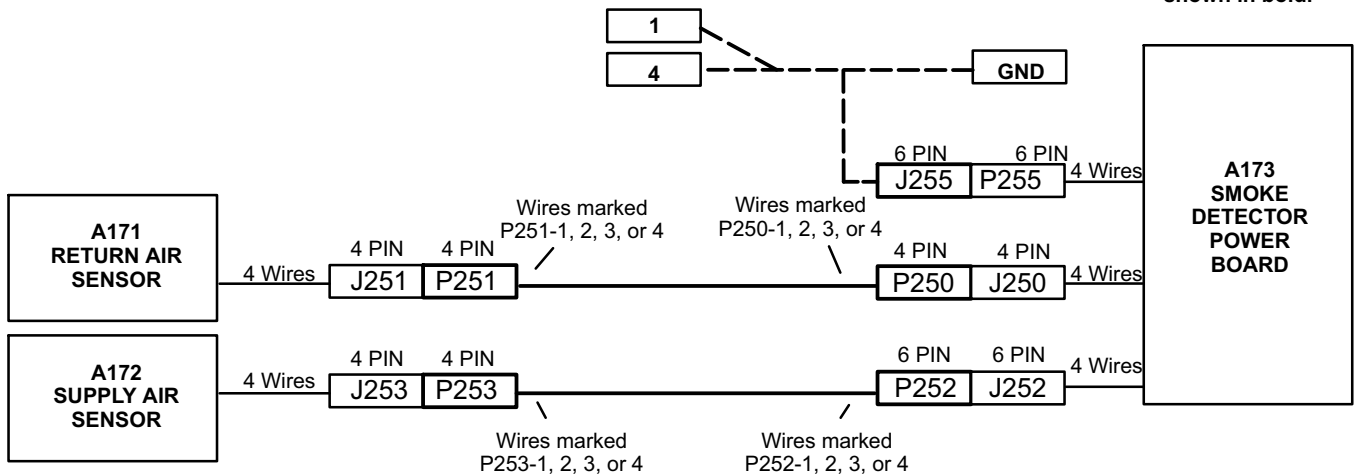
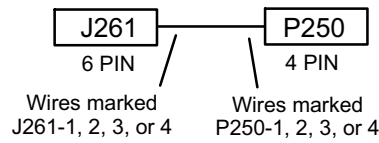

FIGURE 7
FIGURE 8
- 9 - Make jack/plug connections as shown in figure 6 when installing return air smoke detector only, figure 7 when installing supply air smoke detector only, and figure 8 when installing both supply and return air smoke detectors.